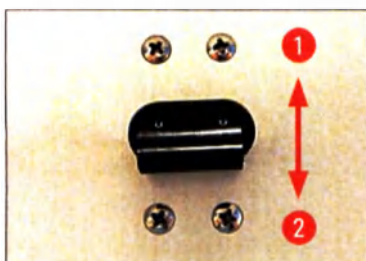

Fig. 12
- The switch must be in the top position (switch position 1) (→ "Fig. 12") for switching on the circuit breaker (→ "Fig. 12-1").
- Switch the instrument on at the circuit breaker (→ "Fig. 12"). The instrument is now initialized.